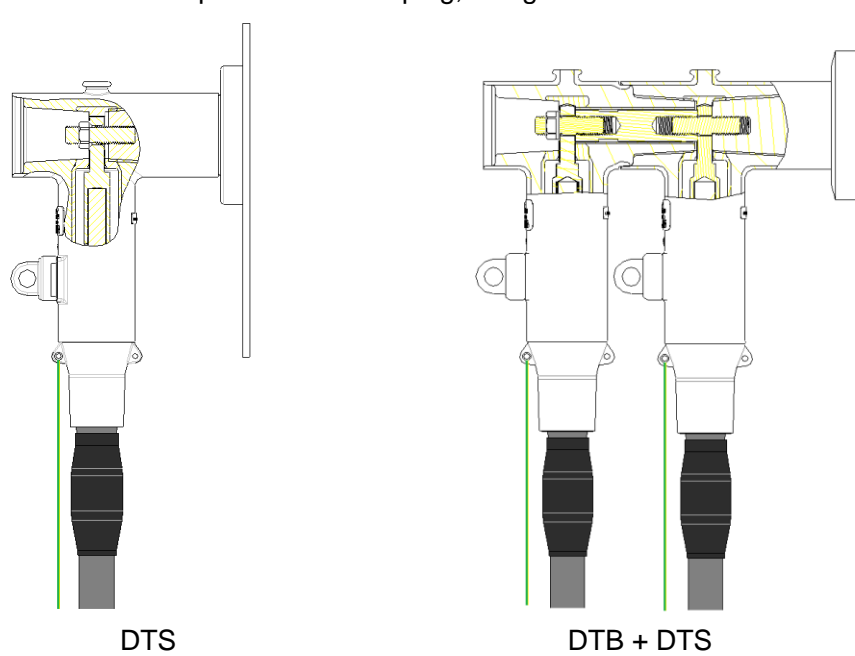

Figure 2
- Remove the rubble cap and insulation plug, as figure 2 shown.